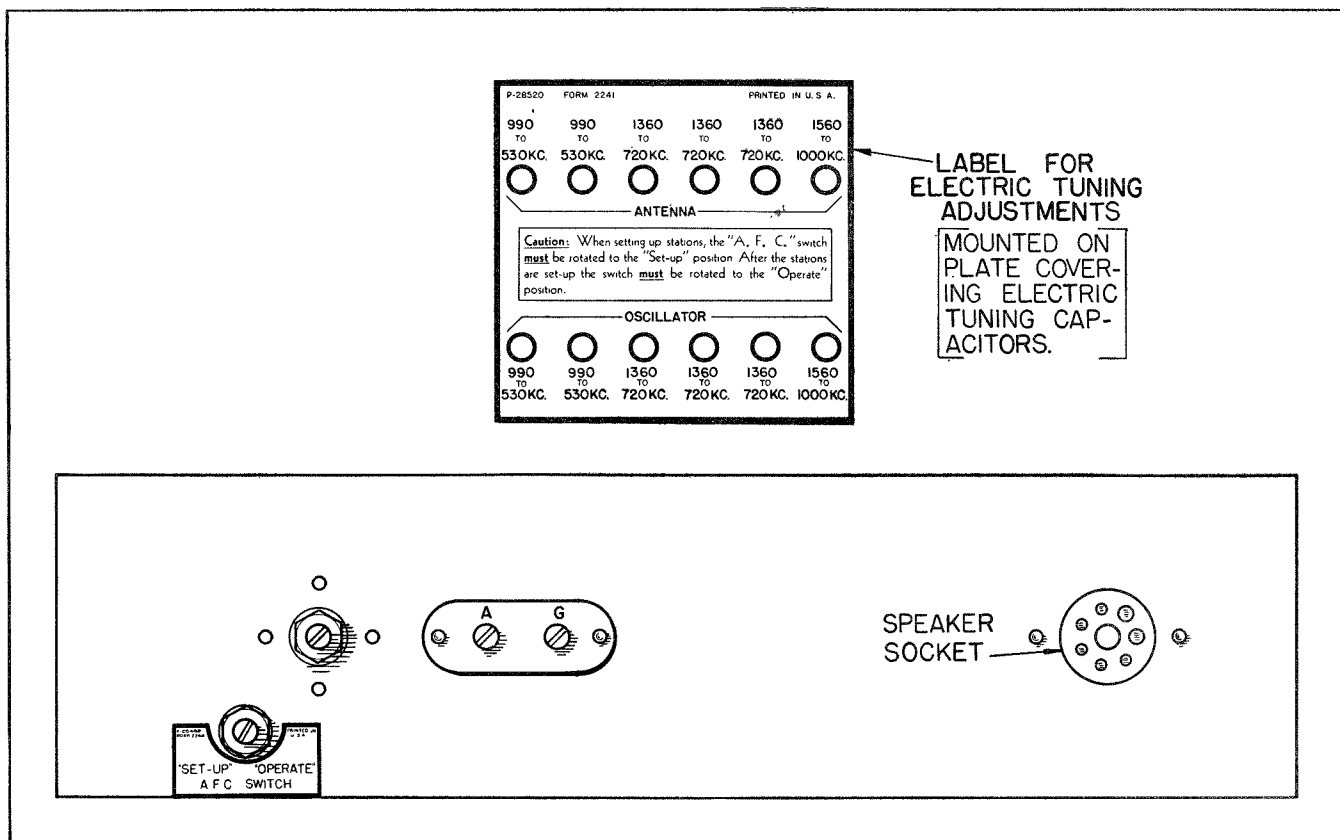

Fig. 5.
when looking at the rear of the receiver. See Figure 5. The six stations should be selected so that the frequency of each station will be within the frequency limits assigned to one of the buttons.
8. **IMPORTANT.** By the aid of a screwdriver, rotate the slotted shaft of the "A. F. C." switch, which is located on the rear of the chassis base, so that the slotted shaft points in the direction of the word, "Set-up" (maximum clockwise rotation). See Figure 5.
10. Push the farthest left-hand button (looking at the front of the receiver) which should be the button for the station having the highest frequency provided the frequency of the station is within the designated frequency limits of the tuning adjustments for this button. See Figure 5. Then, looking at the rear of the receiver, rotate the screw of the oscillator tuning adjustment which is designated 1560 to 1000 kilocycles to the position where the desired station is received. In order to check whether the program being received is from the desired station, simply rotate the "Manual-Electric" control to the "Manual" position, and with the receiver tuned in "Manually" to the desired station a quick check can be made; then, rotate the "Manual-Electric" control knob back to the "Electric" position. **Exact resonance with the desired station should be obtained by observing the tuning indicator.** When this adjustment has properly been made, the screw of the antenna tuning adjustment designated 1560 to 1000 kilocycles should be rotated to the position where maximum indication is again obtained on the tuning indicator tube. When these adjustments have been properly made the station having the highest frequency is correctly set-up for Electric Tuning by means of the push button.